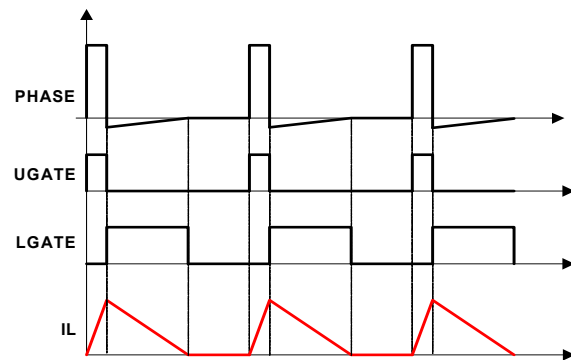

Figure 27. Diode Emulation
The R3 modulator can operate in Diode Emulation (DE) mode to increase light-load efficiency. For example, in Buck DE mode the low-side MOSFET conducts when the current is flowing from source-to-drain and does not allow reverse current, emulating a diode. As shown in Figure 27 on page 34, when LGATE is on, the low-side MOSFET carries current, creating negative voltage on the phase node due to the voltage drop across the ON-resistance. The IC monitors the current by monitoring the phase node voltage. It turns off LGATE when the phase node voltage reaches zero to prevent the inductor current from reversing the direction and creating unnecessary power loss. Similar operations apply for other modes, such as Boost and Buck-boost mode.
If the load current is light enough, as Figure 27 shows, the inductor current will reach and stay at zero before the next phase node pulse. At this stage, the regulator is in Discontinuous Conduction Mode (DCM). If the load current is heavy enough, the inductor current will never reach 0A and the regulator will be in CCM, although the controller will be in DE mode.